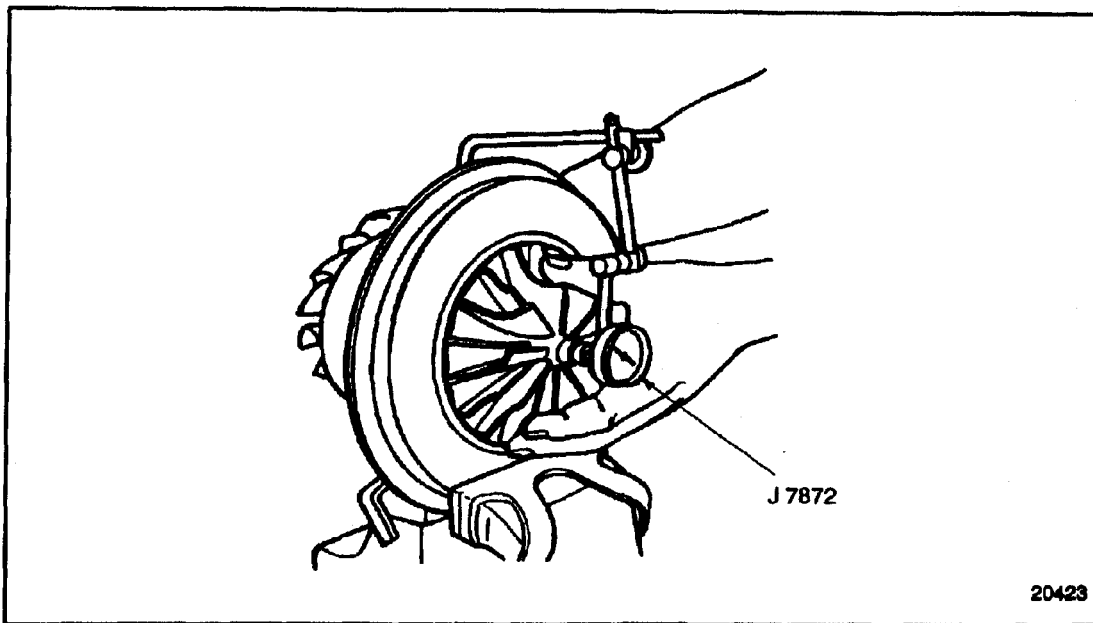

Figure 6-36 **Checking Bearing Axial End Play**
- [a] Clamp the center housing assembly in a bench vise equipped with soft jaws. See Figure 6-36.
- [b] Fasten the dial indicator and magnetic clamp, part of magnetic base dial indicator set, J 7872-2, to the center housing so that the indicator tip rests on the end of the rotating shaft on the compressor side. See Figure 6-36.